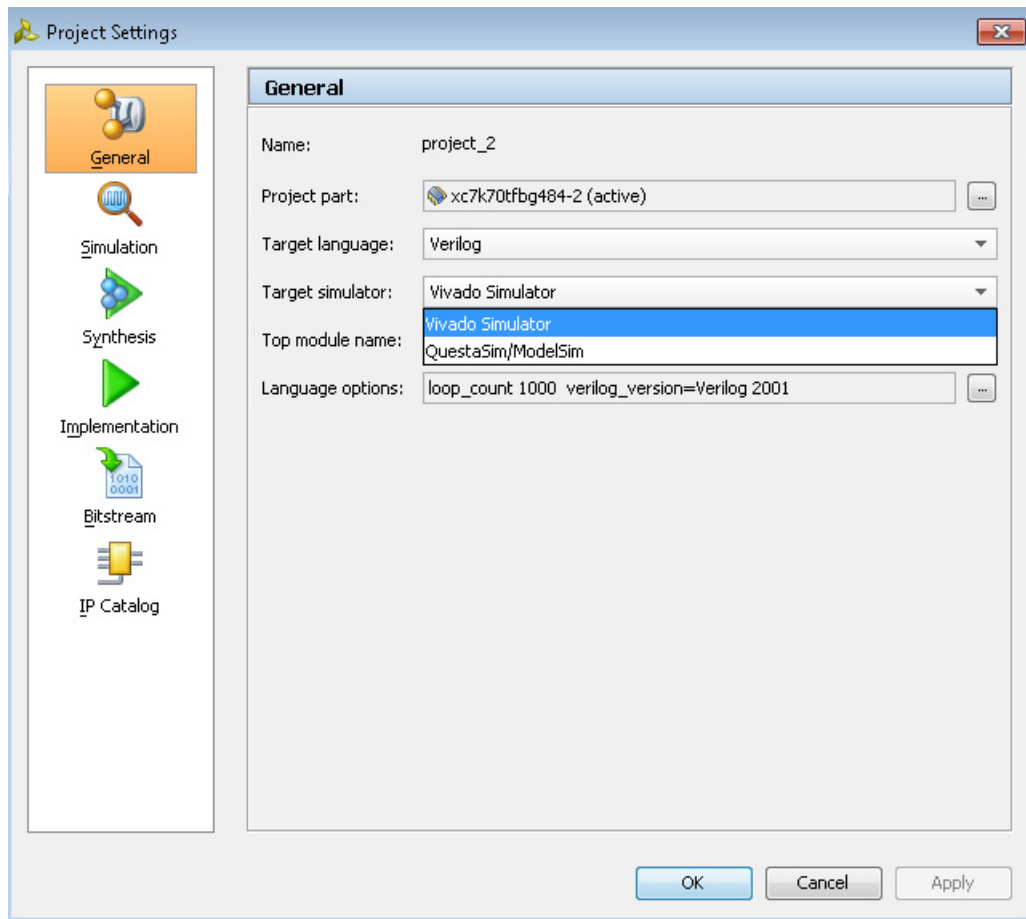

Figure 3-2: Project Setting: Target Simulator Options
- **Run Simulation:** Sets up the command options to compile, elaborate, and simulate the design based on the simulation settings, then launches the Vivado simulator. The Vivado simulator opens a waveform window that shows the HDL objects with the signal and bus values in either digital or analog form. See Figure 3-2.
When you select **Simulation Settings**, the Project Settings dialog box opens, as shown in Figure 3-2.